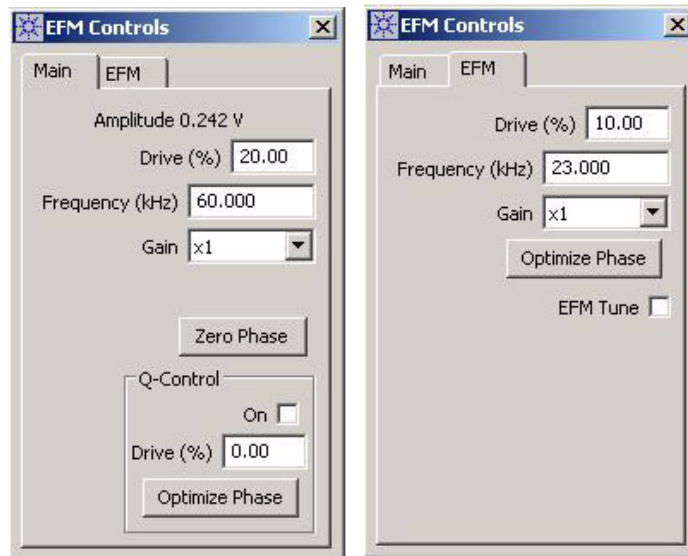

Figure 88 EFM Controls window
- 6 Choose **Controls > Advanced > AC Mode**. The **EFM Controls** window will open (Figure 88).